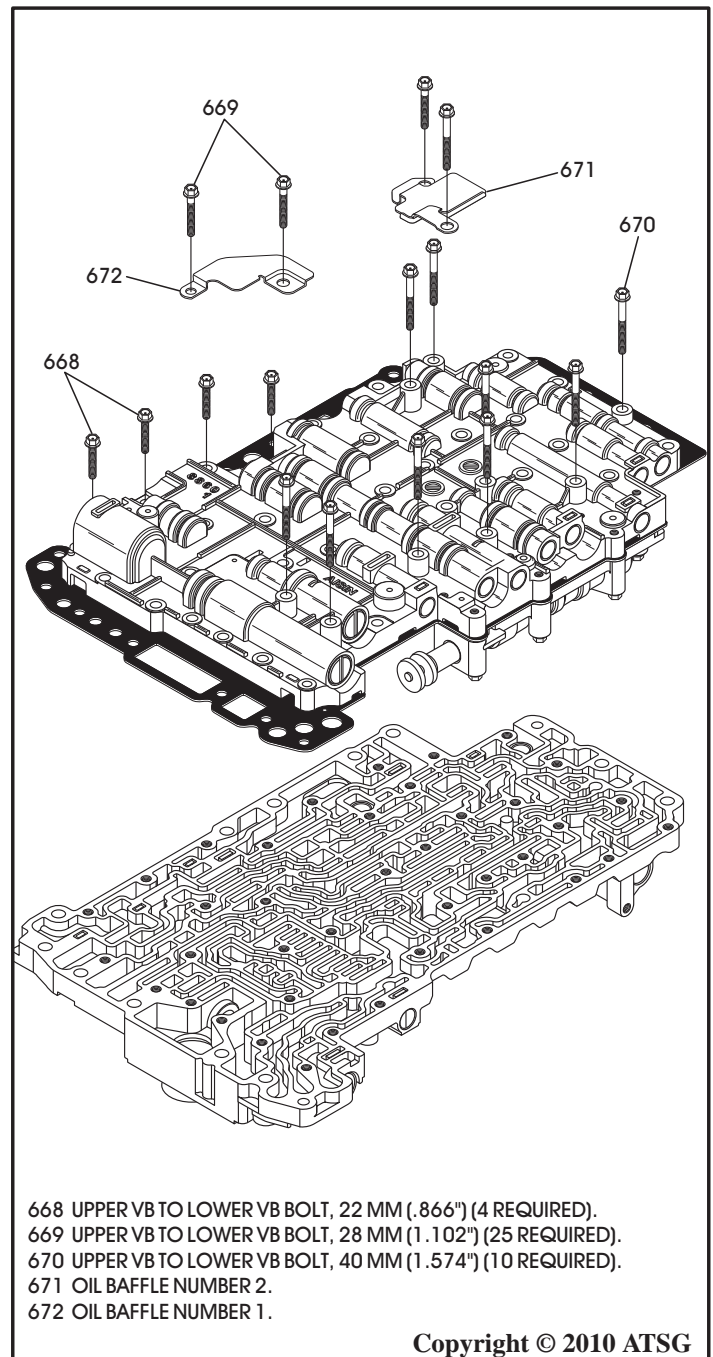

Figure 168
4. Turn the valve body assembly over, as shown in Figure 168.
5. Remove the 39 upper to lower valve body bolts, as shown in Figure 168.
- Note:** There are three different lengths of these bolts See Legend in Figure 168.
6. Remove the two oil baffles, as shown in Figure 168.